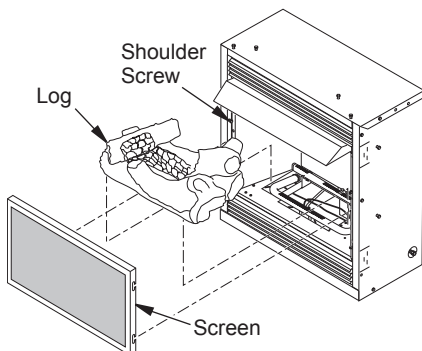

Figure 27 - Installing Log and Screen
1. Remove log packaging material and discard packaging. Gently place log over burner (see Figure 27). Do not allow log to contact flame. If flame contacts log, soot will be created.